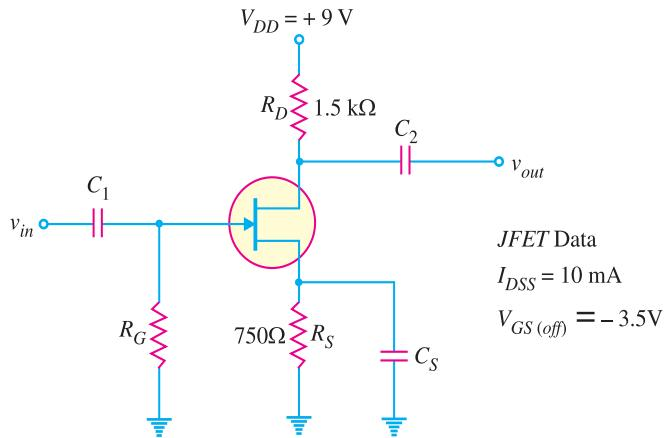

Fig. 19.40
**Example 19.29.** For the JFET amplifier circuit shown in Fig. 19.40, calculate the voltage gain with (i)  $R_S$  bypassed by a capacitor (ii)  $R_S$  unbypassed.